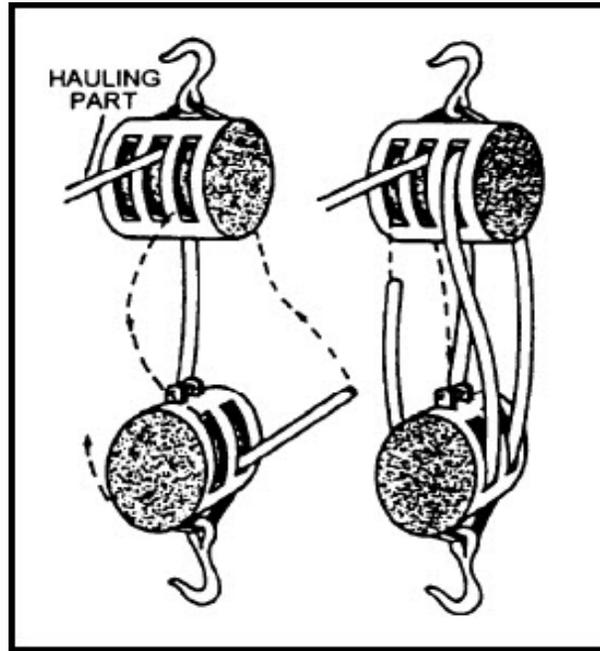

Figure 8-8 Reeving a double-luff tackle
- **DOUBLE-LUFF TACKLE:** This tackle consists of a treble block and a double block. The right-angle method of reeving it is shown in figure 8-8.